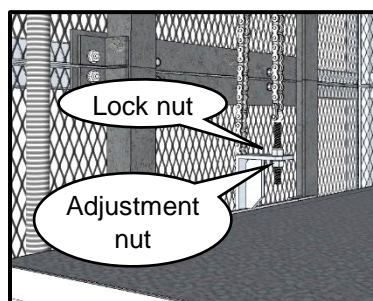

Figure 15
- 7** Using two 9/16" wrenches (15/16" for Mezz-500 model), back lock nut off and then tighten down adjustment nut two revolutions and tighten lock nut up to adjustment nut securely using a blade screwdriver or needle nose pliers to hold the chain from twisting. (see Figure 15)